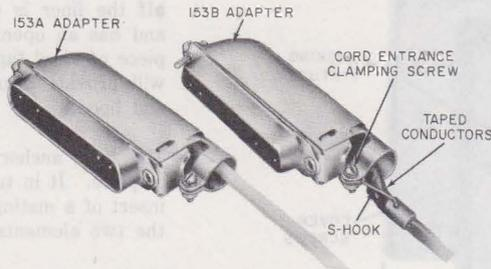

Fig. 8—153A and 153B Adapters
- 148A (MD) and B adapters
- 149A (MD) and B adapters
- Remove spare contacts on 153A and 153B adapters, Fig. 8, 9, 10, and 11.
153A and 153B Adapters (Fig. 8)
- The hood has a cord-entrance clamping screw which is used to restrain S-hook terminated cords (Fig. 8), and cords of this design should have the conductors taped about 1 1/2 inches to improve appearance and protection (Fig. 8).